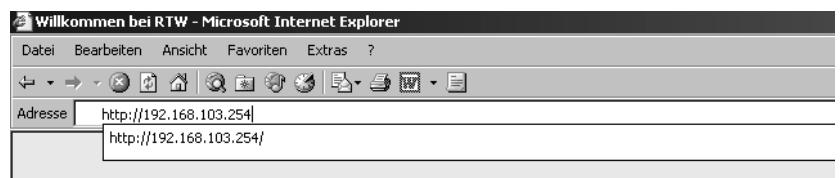

Fig. 8-11: Entering the IP address
1. Start your internet browser and enter <http://192.168.103.254> in the address field (see Fig. 8-11) followed by the hit of the return (Enter) key.